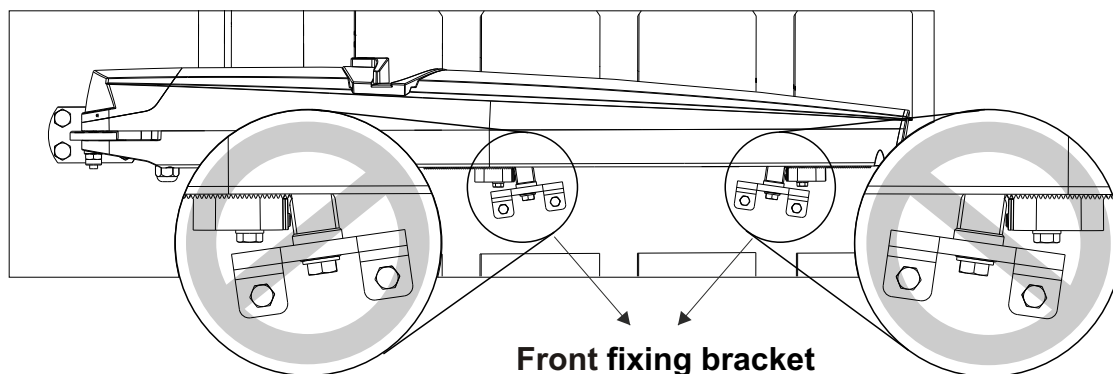

Fig. 22
- 4 - Make sure that the front fixing bracket **DOES NOT TILT** when it reaches the stop (Fig. 22) or malfunctions on the electronic limit switches may occur
**Make sure that the front fixing bracket DOES NOT TILT when it reaches the stop (Fig. 22) or malfunctions on the electronic limit switches may occur**